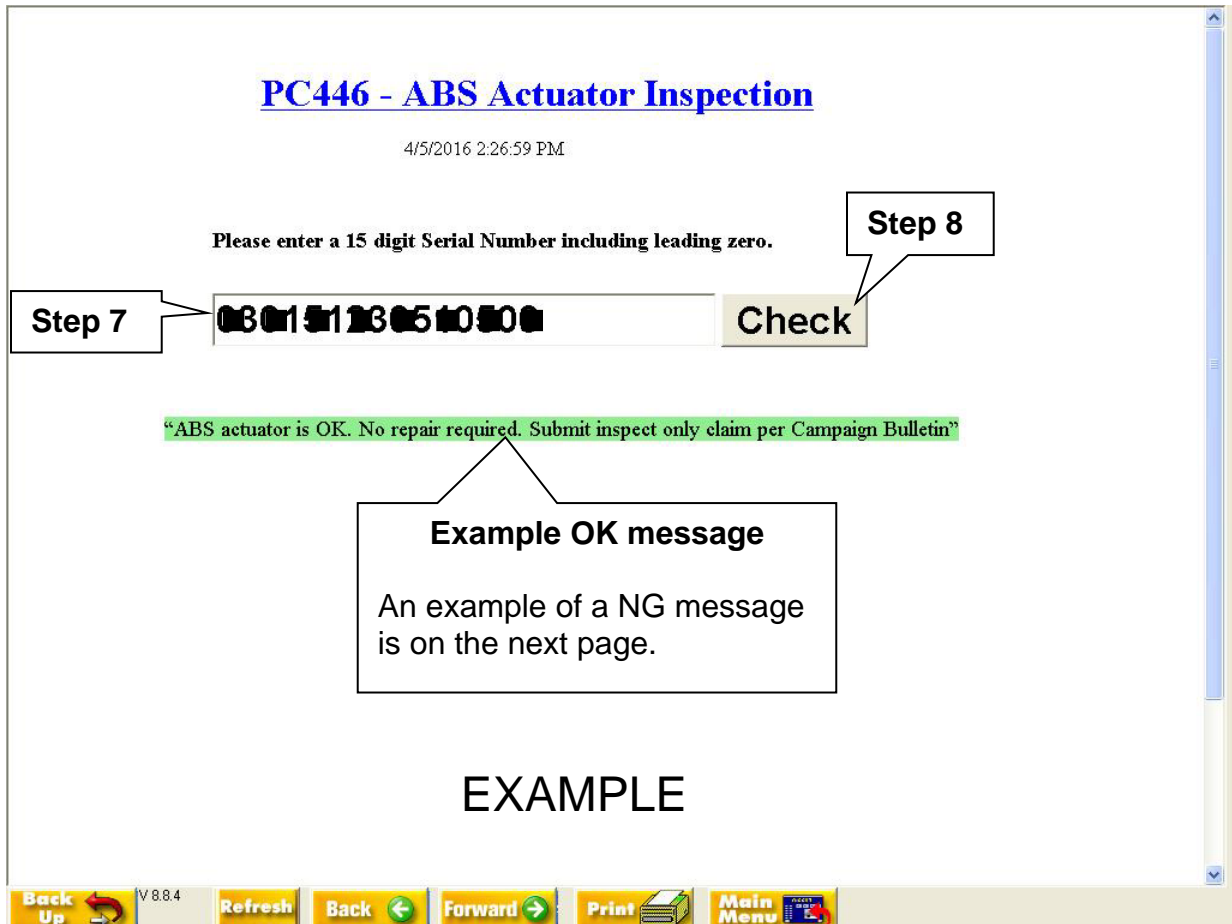

Figure 5
- If your ABS control unit (ABS Actuator) is OK, the **OK** message shown in Figure 5 will display.
- The screen in Figure 5 showing the 15 digit serial number and the **OK** message, **MUST** be printed and attached to the repair order for warranty documentation.